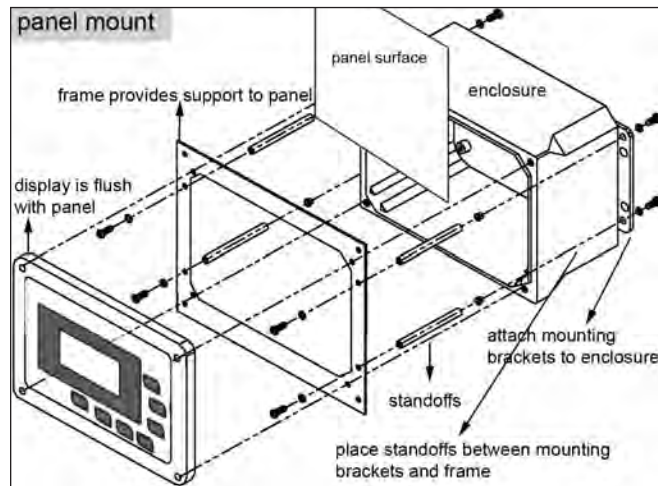

Figure 3.8
8. Place standoffs between 5400 mounting brackets and panel surface - figure 3.8.